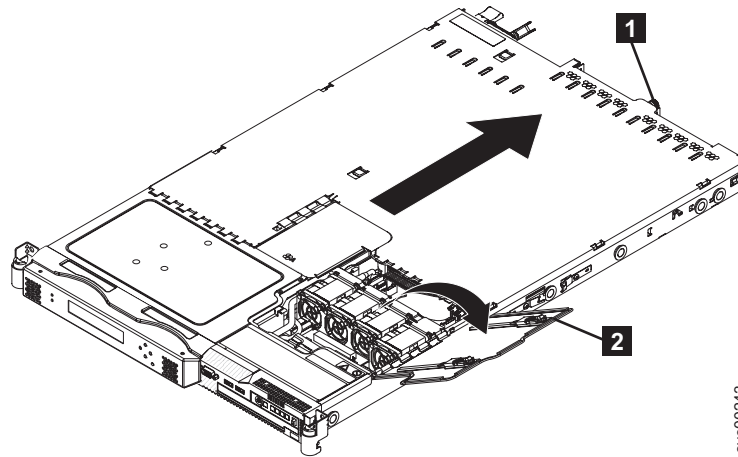

Figure 70. The SAN Volume Controller 2145-8G4 with fan door open
3. Loosen the thumbscrew (**1** in Figure 70 on page 85) that secures the cover at the rear of the SAN Volume Controller 2145-8G4.